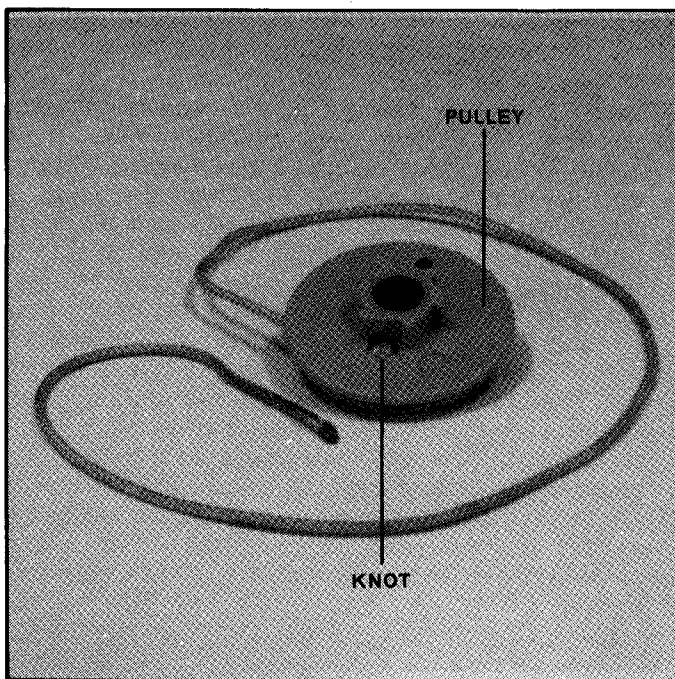

FIGURE 7.6
A. To re-assemble the rope onto the pulley use a 33 inch length of 1/8 inch diameter rope. Insert one end of the rope through the larger hole in the side of the pulley and under the stop pin inside the pulley. Tie a knot securely in the opposite end of the rope then pull the rope through the pulley, seating the knot into the hole and against the stop pin. See Figure 7.6.